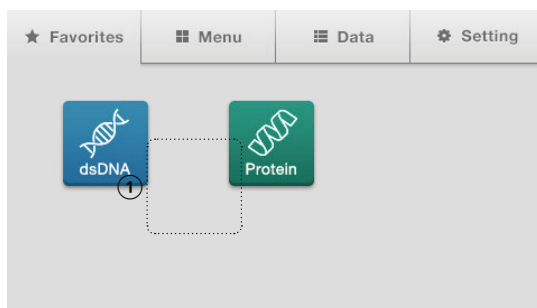

Fig. 3.2
1. [Fig. 3.2] Press ① [dsDNA] on the Favorites screen.